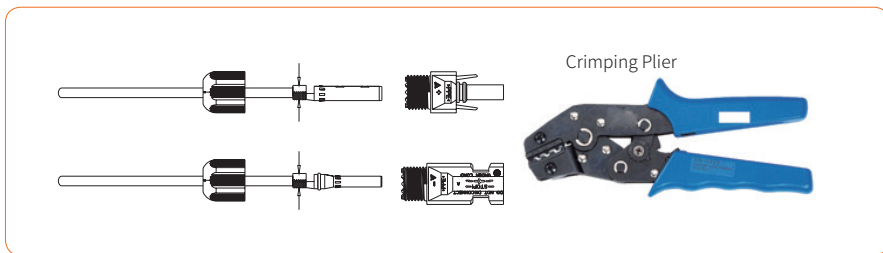

Figure 4-16
④ Insert the DC cable through the DC connector nut into the metal terminal and press the terminal with a professional crimping plier (pull back the cable with some power to check if the terminal is well connected to the cable), as shown in Figure 4-16: